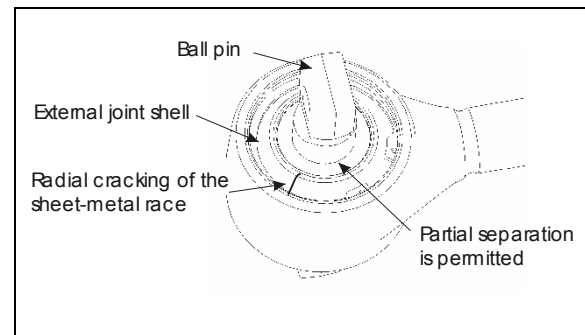

FIGURE 6: BALL PIN BUSHING
- Radial cracking of the external sheet-metal race (Figure 6)